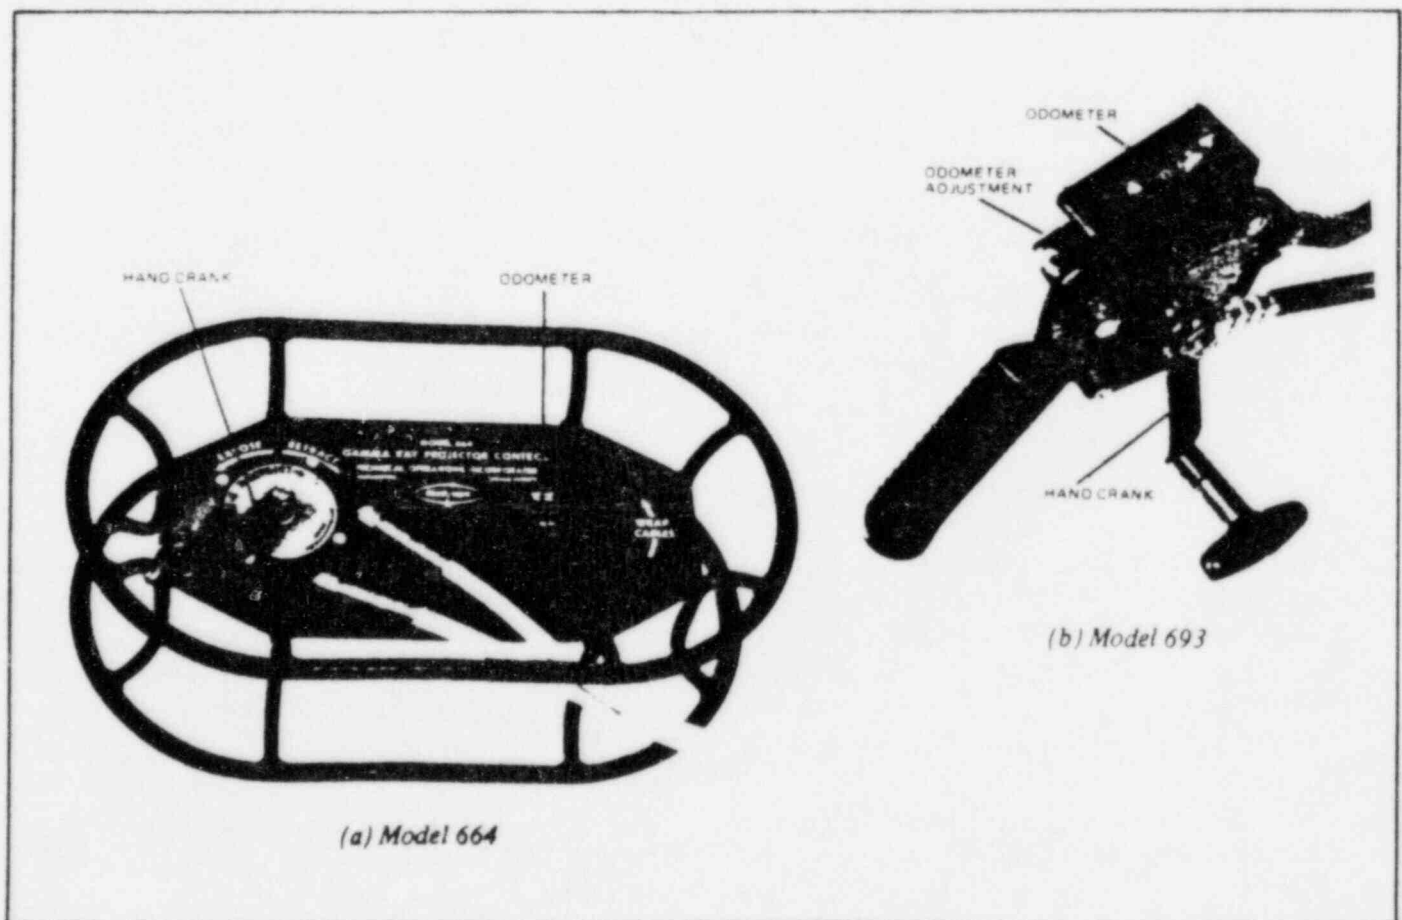

Figure 4-1. Control Units.
b. At the control unit (in a shielded area), rapidly rotate the hand crank in the EXPOSE (counterclockwise) direction to move the source out of the projector and into the guide tubes toward the radiographic focal point. Both the Model 664 and 604 Control Units, shown in Figure 4-1 operate in similar fashion. Continue to rotate the hand crank until the source reaches the snout which serves as a mechanical stop for the source. The odometer reading will indicate the total distance the source traveled (approximately seven feet for one guide tube section, fourteen feet for two sections, and twenty-one feet for three sections).